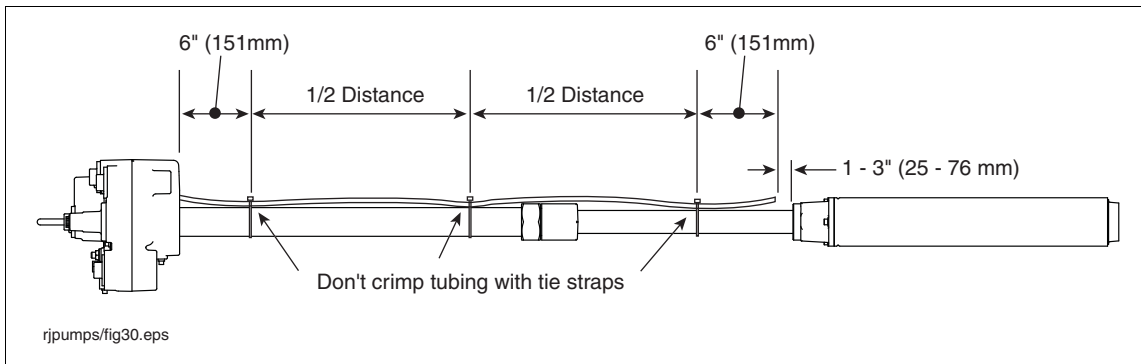

Figure 14. Attaching Return Line Tubing To Pump
8. Secure the siphon return line tubing to the column pipe with tie straps. Locate the tie straps approximately 6 inches (152 mm) from manifold, 6 inches from discharge head and in the middle of the tubing (see Figure 14).